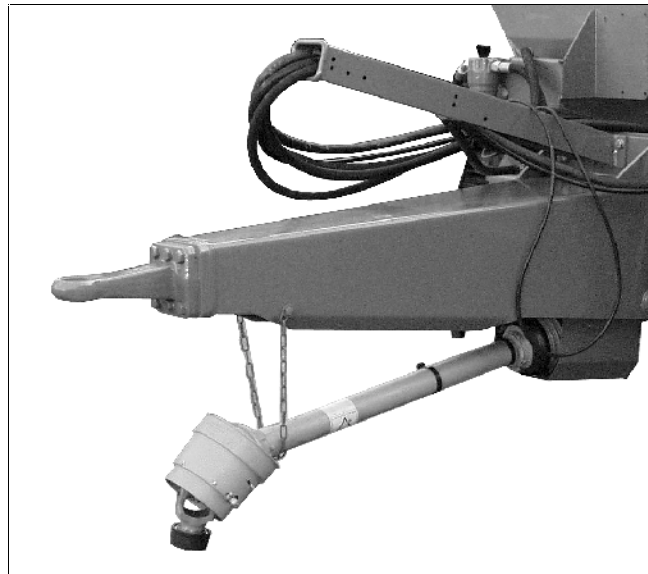

Fig. 19
3. The guard tubes for the PTO shaft have chains (Fig. 19) that are to be attached to the tractor and the ZG-B. These chains prevent the guard tubes from spinning with the PTO shaft. Attach the chains to the holes provided so that the PTO shaft still has sufficient room for movement in all operational positions and so that the guard tube does not spin when the shaft is in operation.